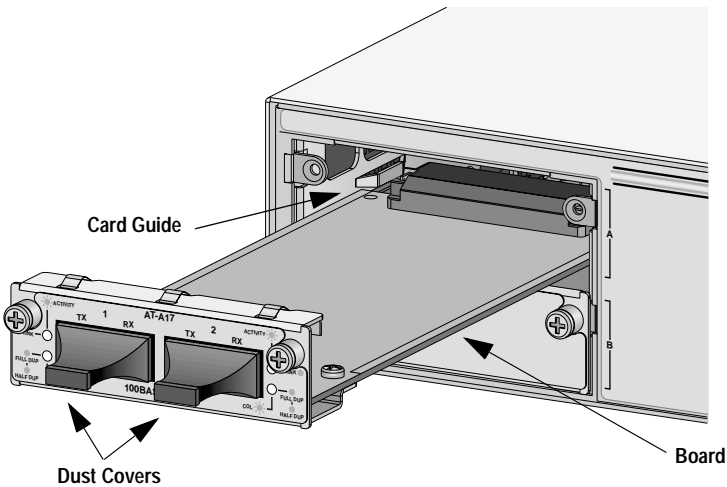

Figure 7 Installing an Expansion Module
4. Slide the expansion module into the empty slot making sure the board is aligned properly with the card guides. Refer to Figure 7.